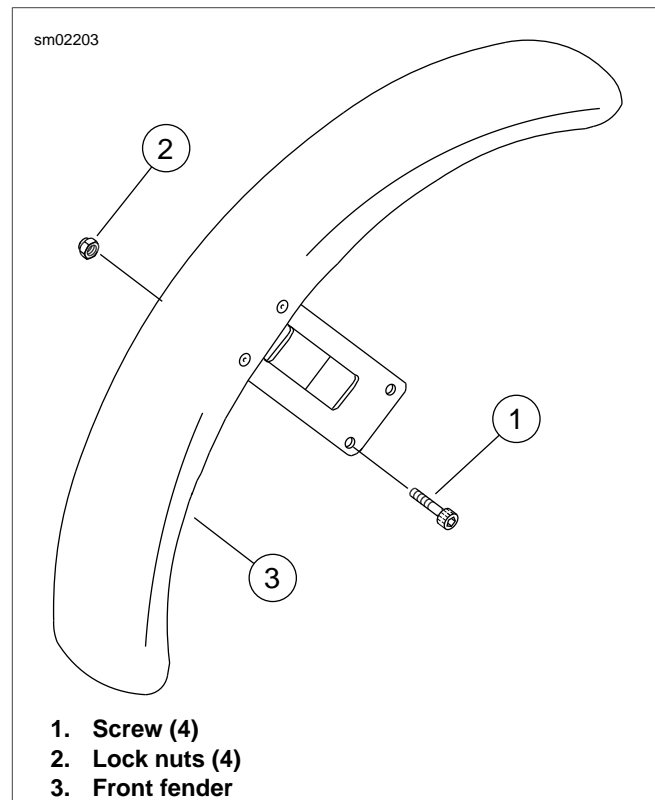

Figure 2-160. Front Fender
1. See Figure 2-160. Remove four screws (1) and lock nuts (2) to detach front fender (3) from front fork sliders.
1. See Figure 2-160. Carefully position front fender (3) between right and left front fork sliders.
2. Secure fender using four screws (1) and lock nuts (2). Tighten to 96-156 **in-lbs** (10.9-17.6 Nm).